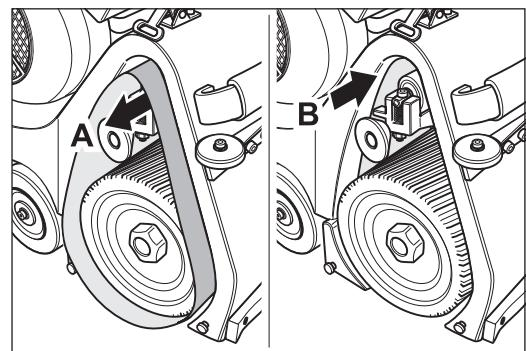

Fig. 41 If the sanding belt runs towards **A** or **B**, the setting of the sanding belt regulation is necessary.
- 5 If the sanding belt runs to the front (towards **A** in Fig. 41) or to the back (towards **B** in Fig. 41) the setting of the sanding belt regulation is necessary (→ *Section 7.3.2, Setting the sanding belt tracking*). If the sanding belt tracking is alright, mount the side cover.
If the sanding belt is running out of true (towards **A** or **B** in Fig. 41), it must be turned around and another test performed.
If the sanding belt runs to the front (towards **A** in Fig. 41) and after turning over to the back (towards **B** in Fig. 41) or vice versa, the sanding belt is of poor quality and is not usable (conical sleeve)!